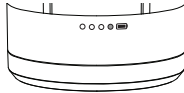

Figure 3
2. Ensure the blender's motor base is charged (Figure 3). For battery charge levels, see "Battery LEDs Show Current Status Chart."